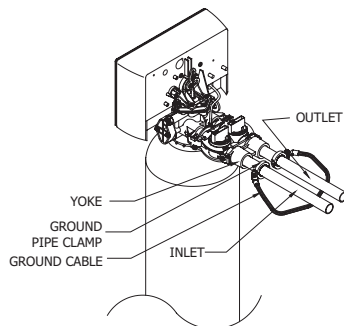

Figure 2
- Connect the raw water supply to the inlet pipe connection of the yoke. When looking at the front of the system, the inlet is the pipe connection on the right side of the valve (see figure 2). The arrow molded into valve indicates the direction of flow.
- Connect the treated water pipe to the outlet pipe connection on the yoke. When looking at the front of the system, the outlet is the pipe connection on the left side of the valve (see figure 2). The arrow molded into the valve indicates the direction of flow.
- When installing on metallic plumbing, connect grounding pipe clamp and cables between the inlet and outlet of the tank. (see figure 2)